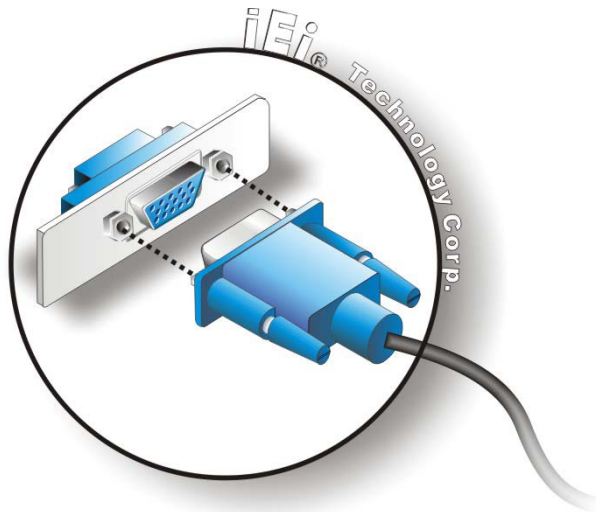

Figure 3-32: VGA Connector
- Step 3:** **Insert the VGA connector.** Once the connectors are properly aligned with, insert the male connector from the VGA screen cable into the female connector on the TANK-720. See **Figure 3-32**.